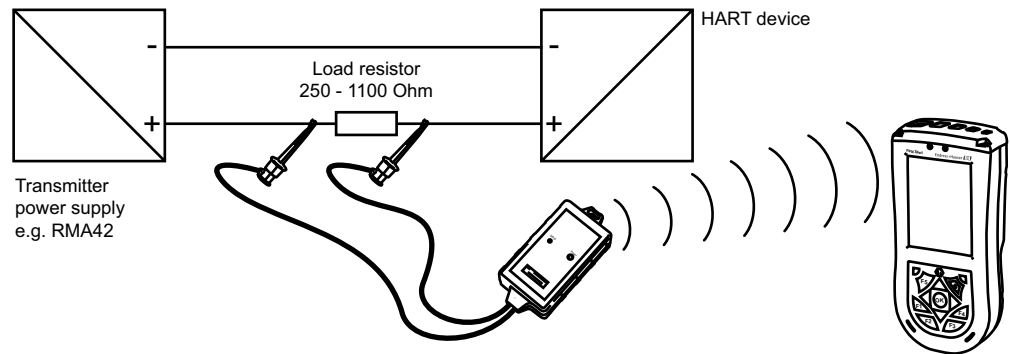

Fig. 3-2: Connection via load resistor
- For a normal transmitter power supply, e.g. RMA42, via a 270 Ω load resistor (250 Ω – 1100 Ω) connected into the loop as shown in Fig. 3-2